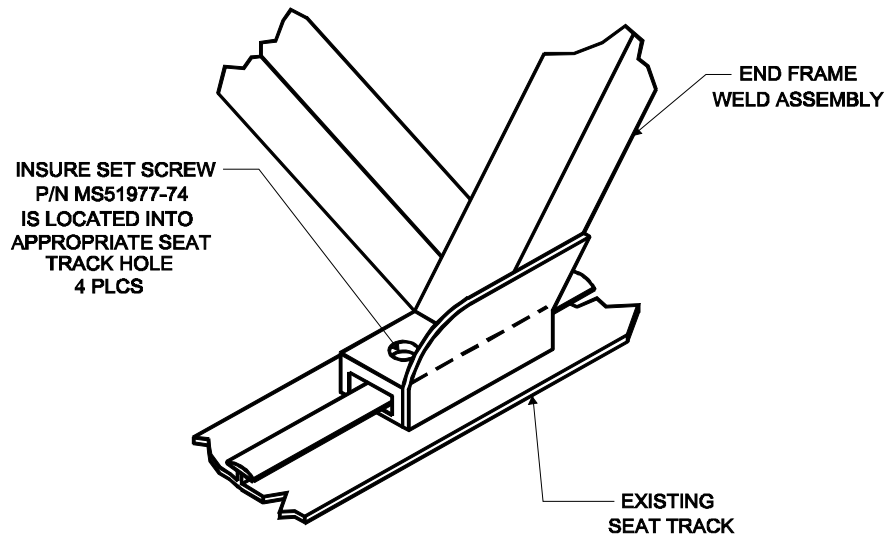

Figure 1.0C
The installation of the stretcher support assembly requires (1) sliding the stretcher support frames to the correct location on the existing seat track and (2) tightening the set screw into the existing hole in the seat track. Refer to Figures 1.0C & D.